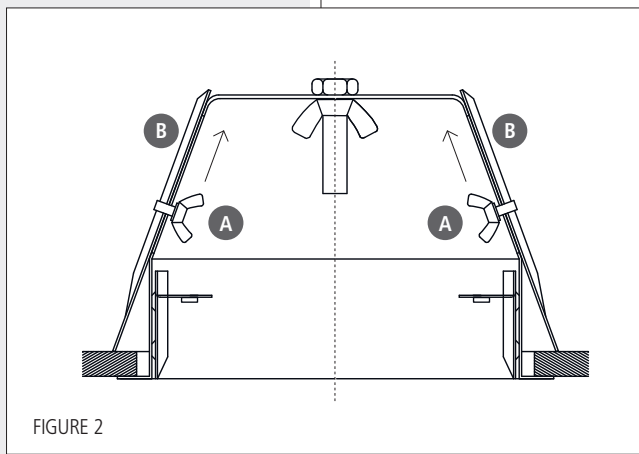

FIGURE 2
2. Loosen the two wing bolts **A** (figure 2) that secure the two attachment plates **B** and move the plates upwards, then secure the two plates **B** by re-tightening the two wing bolts **A**.